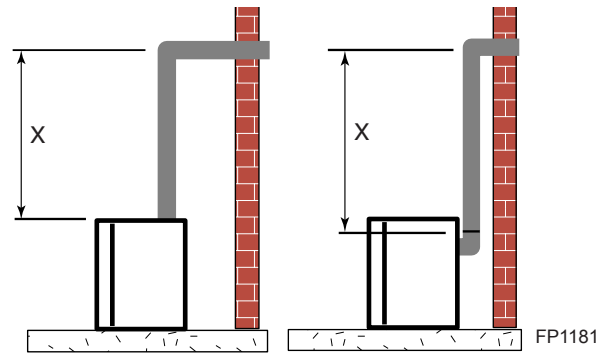

Figure 44 -
Place fireplace into position. Measure the vertical height (X) required from the base of the flue collars to the center of the wall opening. *Figure 44*